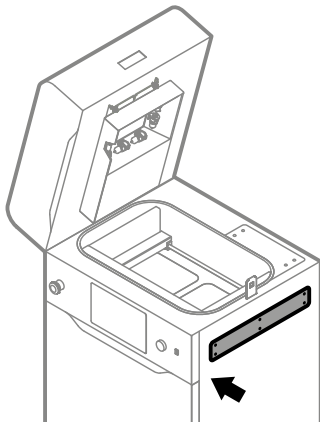

Fig. 12.77 Mount back the access panel.
16. Mount back the access panel on the right side of the printer (fig. 12.77).